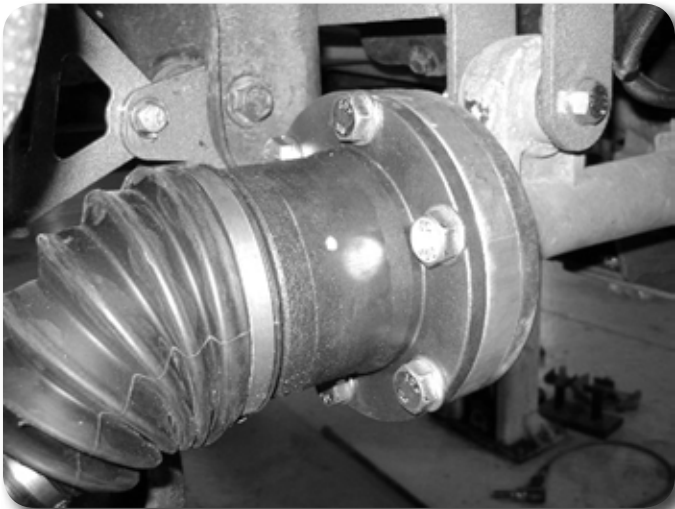

Figure 15
44. Locate and install the provided CV shaft spacers between the factory CV axle shaft and the differential output flanges. Fasten the CV shaft and spacers to the differential with 12mm x 45mm bolts and 12mm flat washers. **Figure 15** Use Loctite on the bolt threads and torque to 60 ft-lbs in a crossing pattern.